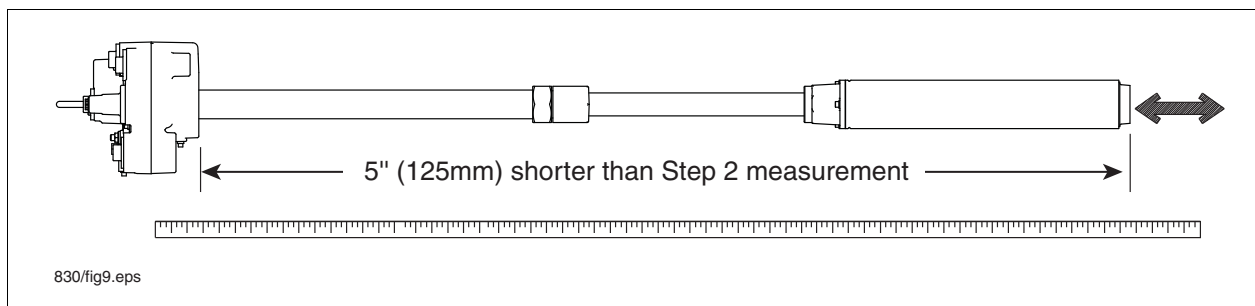

Figure 12. Adjusting Pump Length
- Referencing Figure 12, pull the UMP end until the distance between the bottom of the manifold and the bottom of the UMP is 5 inches (125 mm) (15 inches [381 mm] for floating suction) shorter than the distance measured in Step 2.